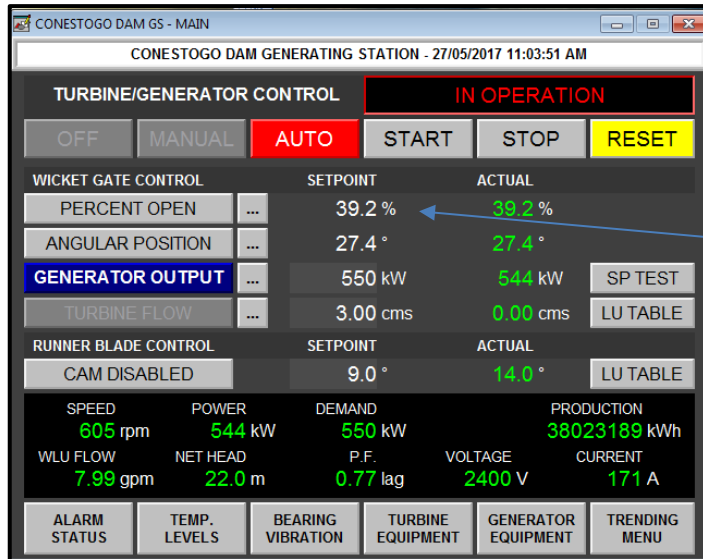

Fig 2
- To lower the kW output, start by selecting **Generator Output “Setpoint”** on the RS viewer (Fig 2)